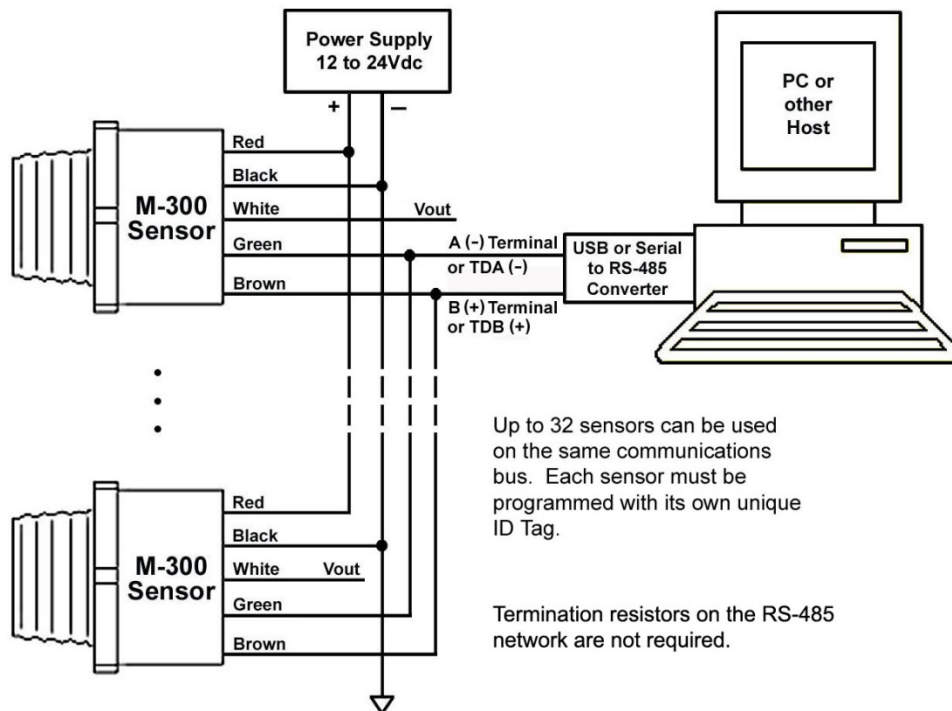

Figure 5
- With the 12-24 V DC Power Supply turned OFF, connect it to the red and black leads of the M-300 Sensor, as shown in Figure 5.
- Disconnect the sensor and then sequentially connect to the computer, by themselves one at a time, each of the remaining multiple M-300 Sensors that are going to be placed on the communications bus, and insert a unique ID Tag from 1 to 32 into each of them. Once this has been done, all the sensors can be wired in parallel to the RS-485 communications bus, as illustrated in Figure 5.